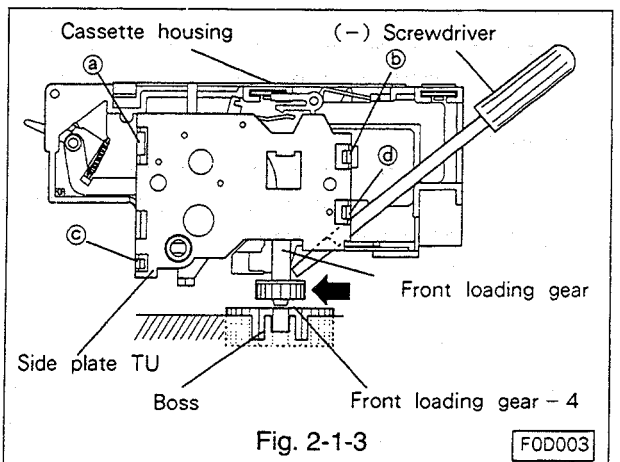

Fig. 2-1-3
- In step A above, if the front loading gear of the cassette housing does NOT engage the boss on the main plate, carefully push the gear toward the front of the VCR using a small-diameter screwdriver, as illustrated in Fig. 2-1-3. If the gear still will not engage, rotate the Front Loading Gear a few degrees from below the deck until the gear engages the boss correctly.
#### 2-2-1 Removal(Refer to Fig. 2-1-3~2-2.)
- Unfasten four snaps (a ~ d) as shown in Fig. 2-1-3, and remove the side plate TU.
#### 2-2-2 Installation(Refer to Fig. 2-1-3~2-2.)
- Install the side plate TU to the cassette housing, and secure it with four snaps (a ~ d) as shown in Fig. 2-1-3.